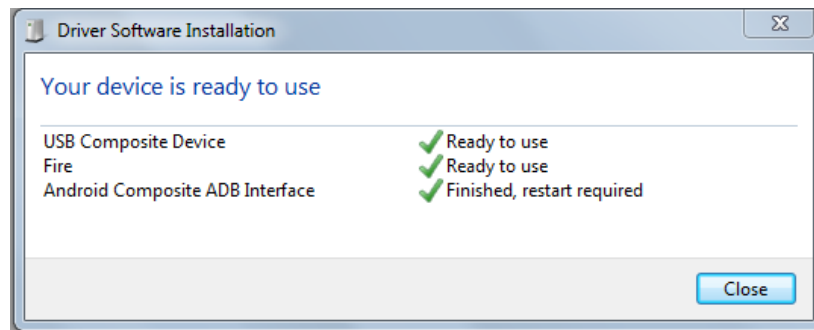

Figure 51, Kindle Fire Driver Installation.
2. After connecting the Kindle Fire to the computer via USB it was able to successfully recognize and install the correct driver for the Kindle Fire (Figure 51).